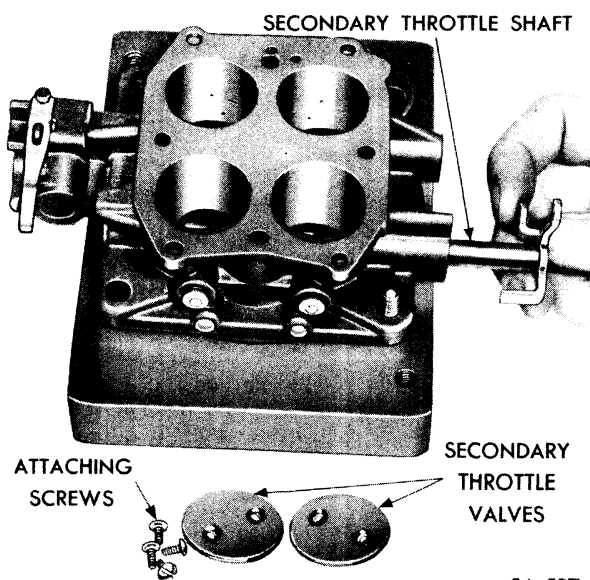
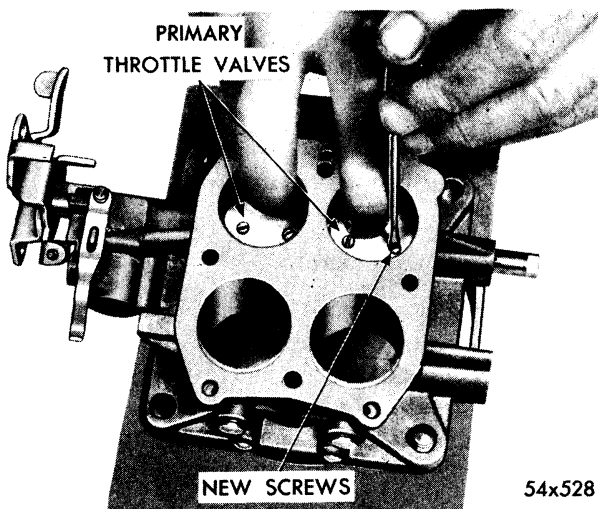
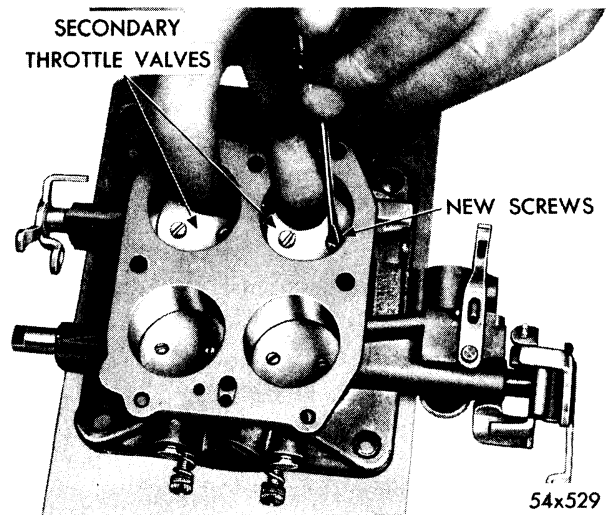

Fig. 36—Removing or Installing Secondary Throttle Shaft
Fig. 39—Installing Primary Throttle Valves
Fig. 40—Installing Secondary Throttle Valves
- (10) Remove the four screws that attach the secondary throttle valves to the throttle shaft.
- (11) Lift out valves, and withdraw secondary throttle shaft with a twisting motion, as shown in Figure 36.
- (3) The idle speed adjusting screw must be backed out when seating valves in the following operation. Slide the valves in position in the throttle shaft and insert the new screws but do not tighten.
- (4) Hold the valves in place with the fingers, as shown in Figure 39. (Fingers pressing on the high side of valves.)
- (5) Tap the valves lightly with a screwdriver to seat in the throttle bores. Holding the valves in this position, tighten the screws securely and stake by squeezing with pliers.
- (6) Slide the secondary throttle shaft in the throttle body with tang on the lever pointing toward the fast idle cam boss (see Fig. 36).
- (7) Center the secondary throttle shaft with the bores, and install the secondary throttle valves.
- (8) Hold the valves in this position, and insert "NEW" screws (large heads), but do not tighten.
- (9) Hold the valves in place with the fingers, as shown in Figure 40. (Fingers pressing on the high side of the valves.)
- (10) Tap the valves lightly with a screwdriver to seat in the throttle bores. Holding the valves in this position, tighten screw securely, as shown in Figure 40. Stake screws by squeezing with pliers.
- (11) Install the two idle mixture adjusting screws and springs in the throttle body